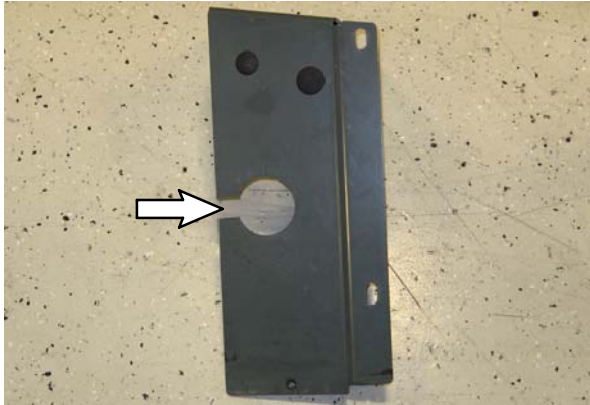

FIG. 7
32. Cut approximately 1" from the mounting bracket. Refer to Fig. 7.